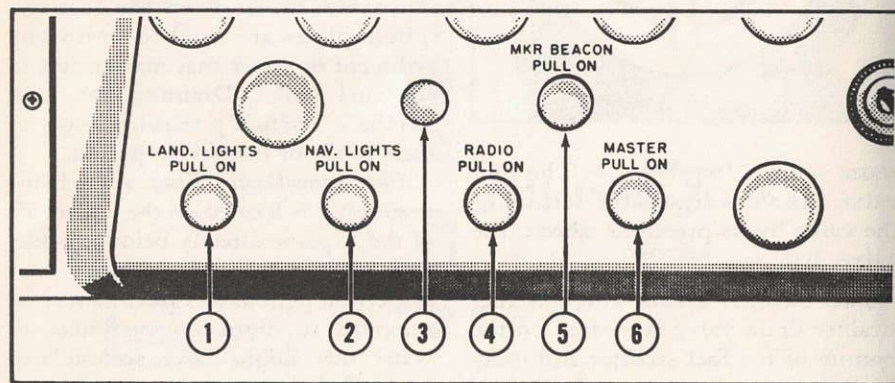

Figure 2. Electrical Switch Panel
21. Electrical Switch Panel (See figure 2)
Master Switch. The master switch (6, figure 2) is the first knob to the left of the cigarette lighter. Switch positions are "ON" (out position) and "OFF" (in position). When the master switch is turned "ON", a solenoid switch is energized and the electrical power of the battery is admitted into the electrical system. In event of a short or malfunctioning of the airplane electrical system, the master switch may be turned off and the engine will con-
Navigation Lights. The navigation lights consist of a red light on the left wing tip, a green light on the right wing tip, and a white light on the trailing edge of the rudder. The navigation light switch (2, figure 2) is mounted on the instrument panel. *To turn the navigation lights on*, pull the navigation light switch out. *To turn the lights off*, push the switch in.
Landing Light. (Optional Equipment). The landing light consists of two lamps mounted side-by-side in the leading edge of the left wing. One of the lamps is adjusted to give proper illumination of the runway during landing and take-off while the other lamp is set to provide illumination of the ground for taxiing purposes. The landing light switch (1, figure 2) is mounted on the instrument panel. *To turn the taxi light on*, pull the switch out to the first stop. *To turn both the landing light and the taxi light on*, pull the switch out to the second stop. *To turn lights off*, push the switch all the way in.